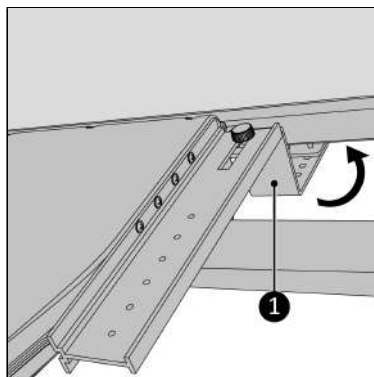

Figure 98.
7. Hook the bracket around the outward turning part of the window frame (Figure 98, pos. 1).